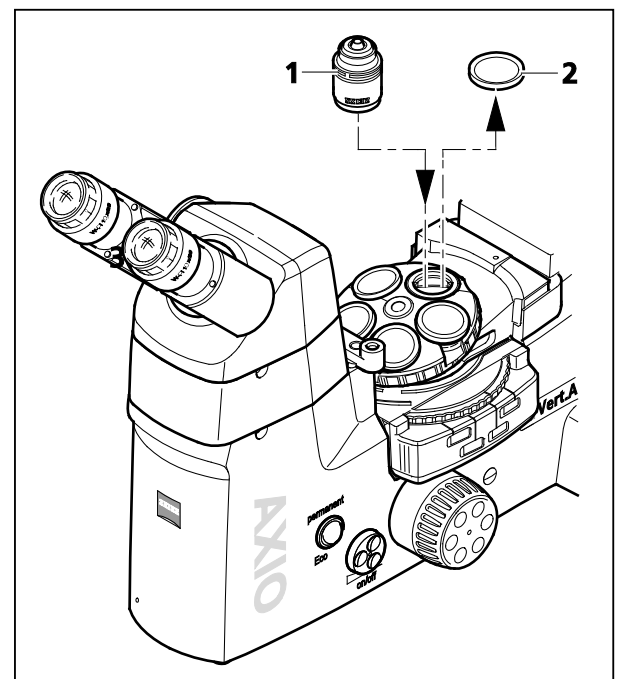

Fig. 3-5 Screwing Objectives in Place
- Remove as many dust caps (Fig. 3-5/2) as there are objectives.
- Take the objectives (Fig. 3-5/1) out of the container and screw them into the objective nosepiece by ascending magnification factors. In so doing, make sure the objective is correctly and safely fitted.